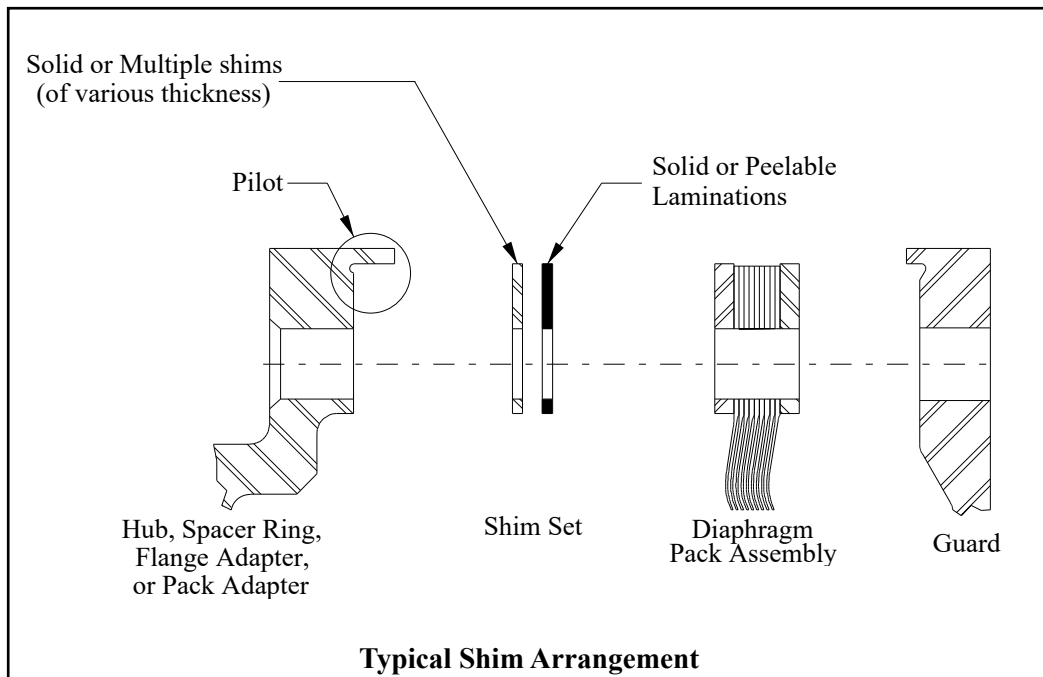
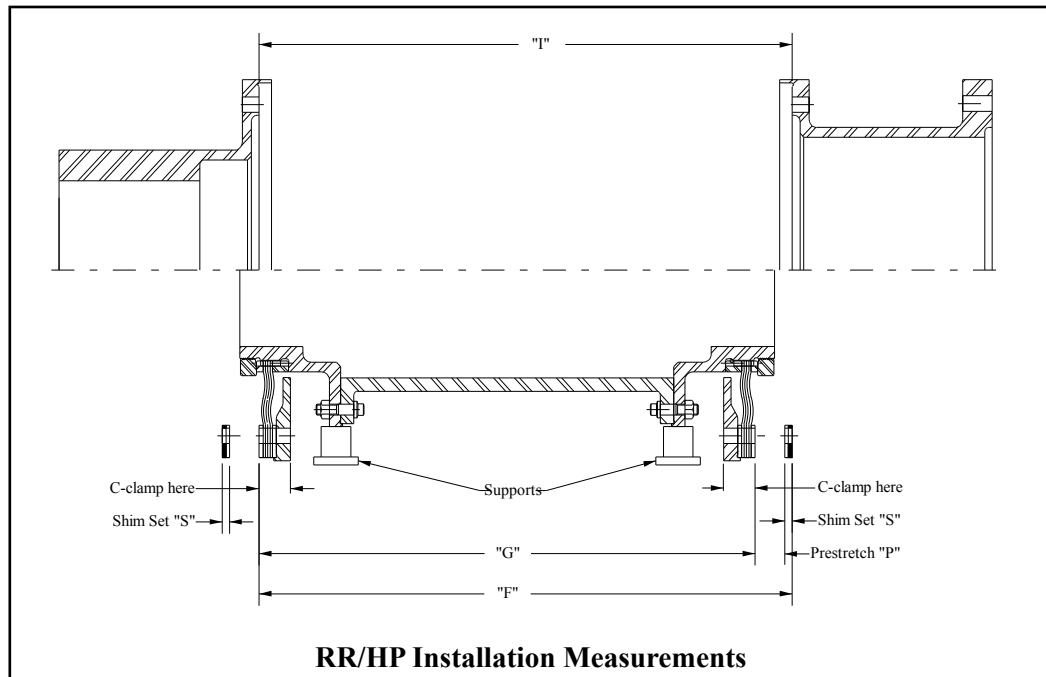

Figure 4-6
Figure 4-7
Shims are provided to adjust the length of the coupling at installation to accommodate variations in flange-to-flange dimensions (“I” dimension as shown in Figure 4-7 through 4-10) within the limits specified on the Ameridrives sales drawing. The coupling spacer is intentionally made short by the thickness of one shim set. This allows for flange-to-flange adjustability equivalent to the thickness of one shim set in either direction. Two shim sets are normally provided (see Figure 4-6). Refer to the Ameridrives Sales Drawing for location and quantity of shims.
- 4.4.1.1 Measure and record, on the worksheet in Paragraph 4.4.5, the installation Length "I" (distance between mounted flange faces) at four (4) places approximately 90° apart (see Figure 4-7).
- 4.4.1.2 Assemble the diaphragm pack sub-assemblies onto the spacer taking care to realign the matchmarks and end identification letters. Install a minimum of four (4) bolts approximately 90° apart through each flange and tighten the bolts evenly in a crisscross pattern to seat the pilots. Support as shown in Figure 4-7.
- 4.4.1.4 Measure and record, on the worksheet in Paragraph 4.4.5, the coupling free length "G" (distance between diaphragm pack sub-assembly outer diaphragm pack faces) at four (4) places approximately 90° apart. It is recommended that C-clamps be used to compress the diaphragm pack at the location the measurements are being taken (see Figure 4-7).